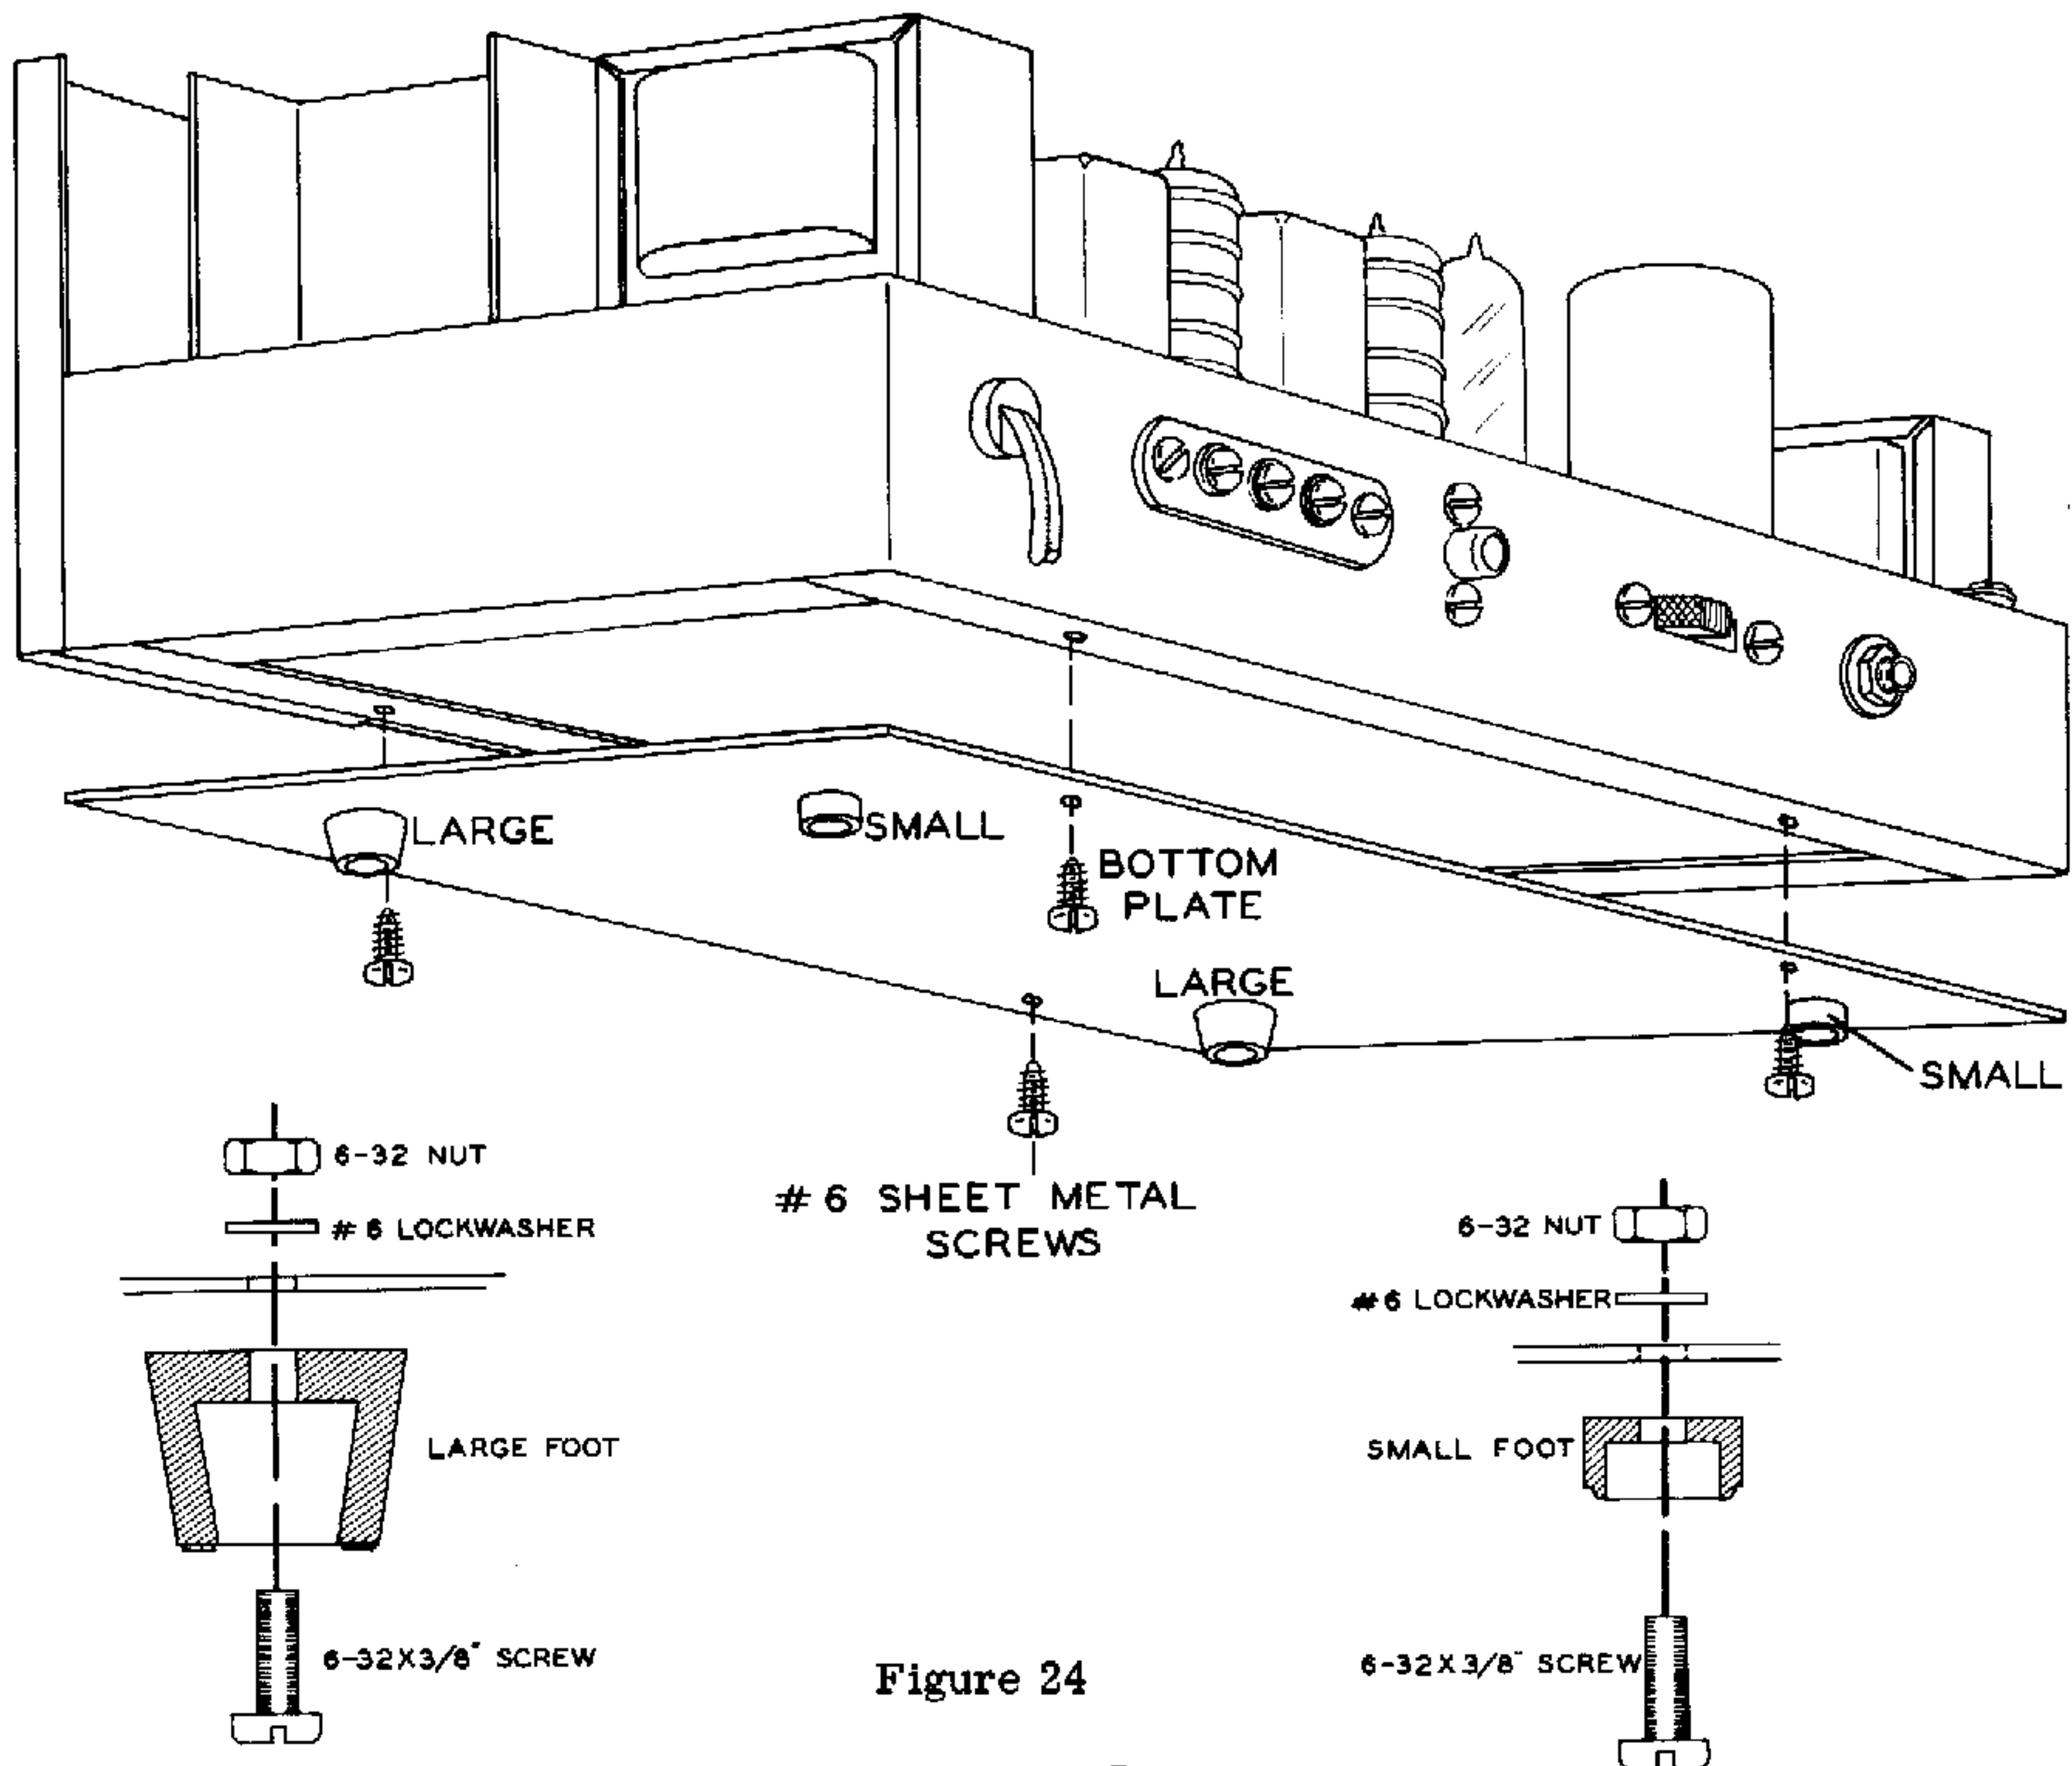

Figure 24
- () Referring to Figure 24, install the two large tapered feet in the holes toward the front edge of the bottom plate. Use two 6-32 x 3/8" screws, #6 lockwashers, and 6-32 nuts.